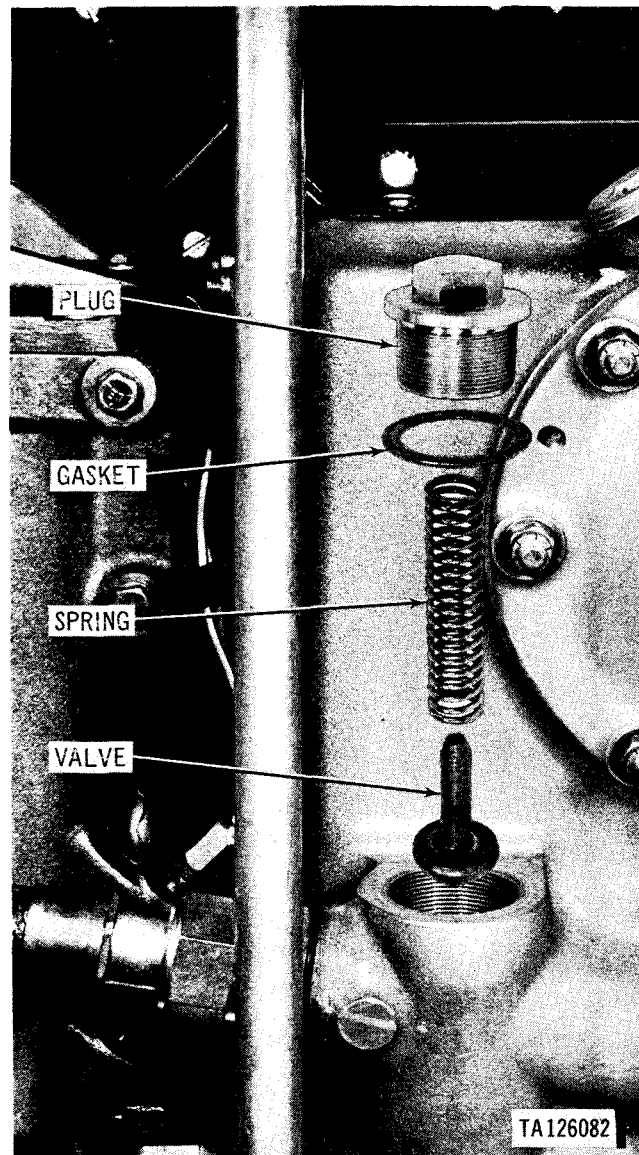

Figure 2-110. Removing or installing oil cooler bypass ualue.
(1) Remove oil cooler bypass plug (fig. 2-110). Remove and discard gasket.
(2) Remove bypass valve spring and bypass valve.
- (1) Install bypass valve (fig. 2-110). Position